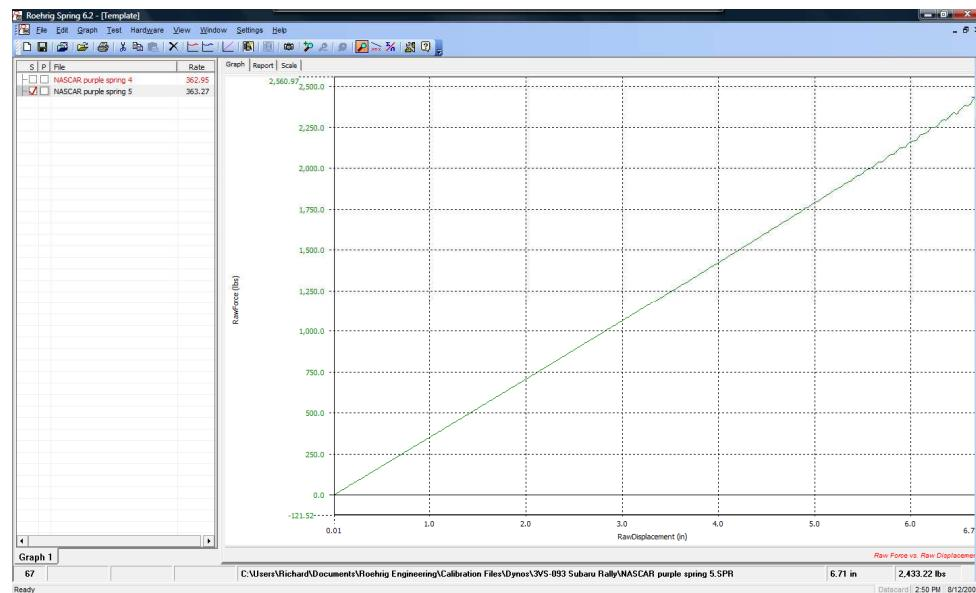

Figure 16: Raw Force vs. Displacement
**Raw Force vs. Displacement:** This graph shows the collected force values compared to displacement without the internal filtering that is built into the program. All other graphs are filtered to eliminate electronic noise that hurts the repeatability of the data. You may view the raw numeric values by clicking the **Copy** button in the **Edit** pull down menu with this graph open, then paste to a Microsoft Excel spreadsheet. No numeric data is available on the data page for raw data, to view raw numeric data it must be viewed in Excel. (Figure 16)